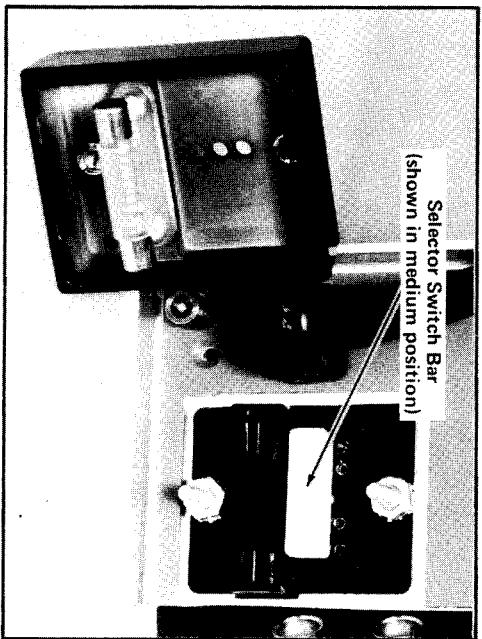

Fig. 1. Power supply regulating range selector.
4. Pull out the range selector switch bar (see Fig. 1).